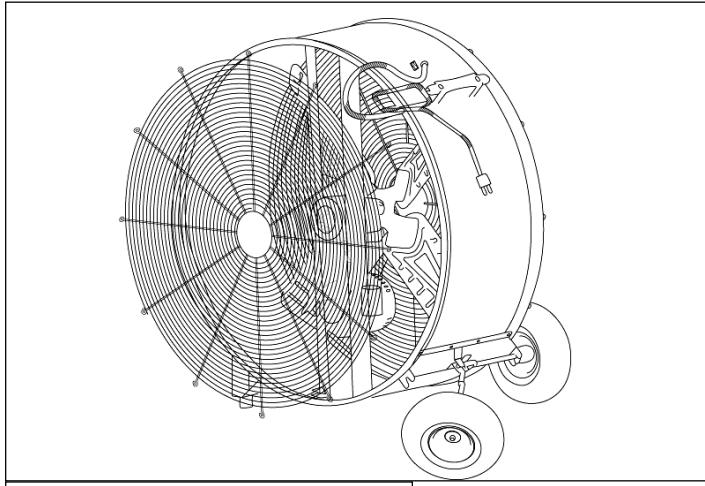

Figure 2: Removing Guard
1. Remove screws from Rear Guard and tilt wheel (figure 2).